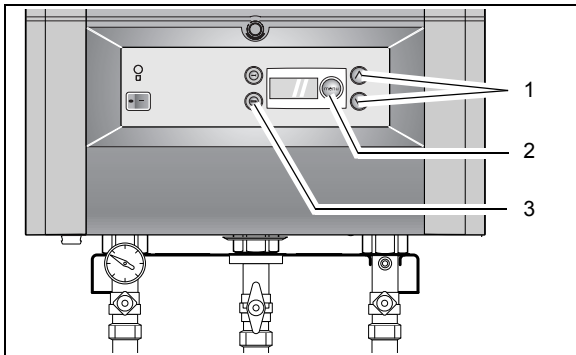

fig. 7 DBA – Mains switch
- Press  button (see fig. 7, item 2) twice then adjust the DHW temperature to the desired temperature (40 °C - 60 °C) using the  and  keys (fig. 7, item 1). Factory setting is 48 °C.
- Press the  button (see fig. 7, item 2) three times.
- Press  button (see fig. 7, item 2) four times then adjust the flow temperature to the desired temperature (30 °C – 80 °C) using the  and  keys (see fig. 7, item 1).